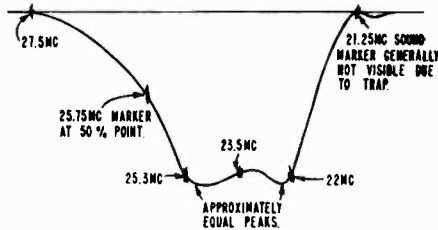

Figure 33A. Overall RF and Video IF Response Curve.
7. Sweeping the RF pass band for an unassigned high channel (see frequencies in "RF and Mixer Alignment"), check the overall response curve obtained against the ideal curve, figure 33A.
Check sound IF trap (21.25 MC) and video IF carrier (25.75 MC) points with marker generator. It is important that marker pips be in proper location on the response curve. Consistent with proper band width and correct location of markers, the response curve should have maximum amplitude and flat top appearance and peaks with approximately equal amplitudes, as shown in figure 33A.
If necessary to adjust for peaks with approximately equal amplitude, carefully adjust IF slug A7 (23.5 MC coil) while observing the response curve. Turn slug about ¼ to ½ turn in either direction until correct results are obtained. See figure 33A.